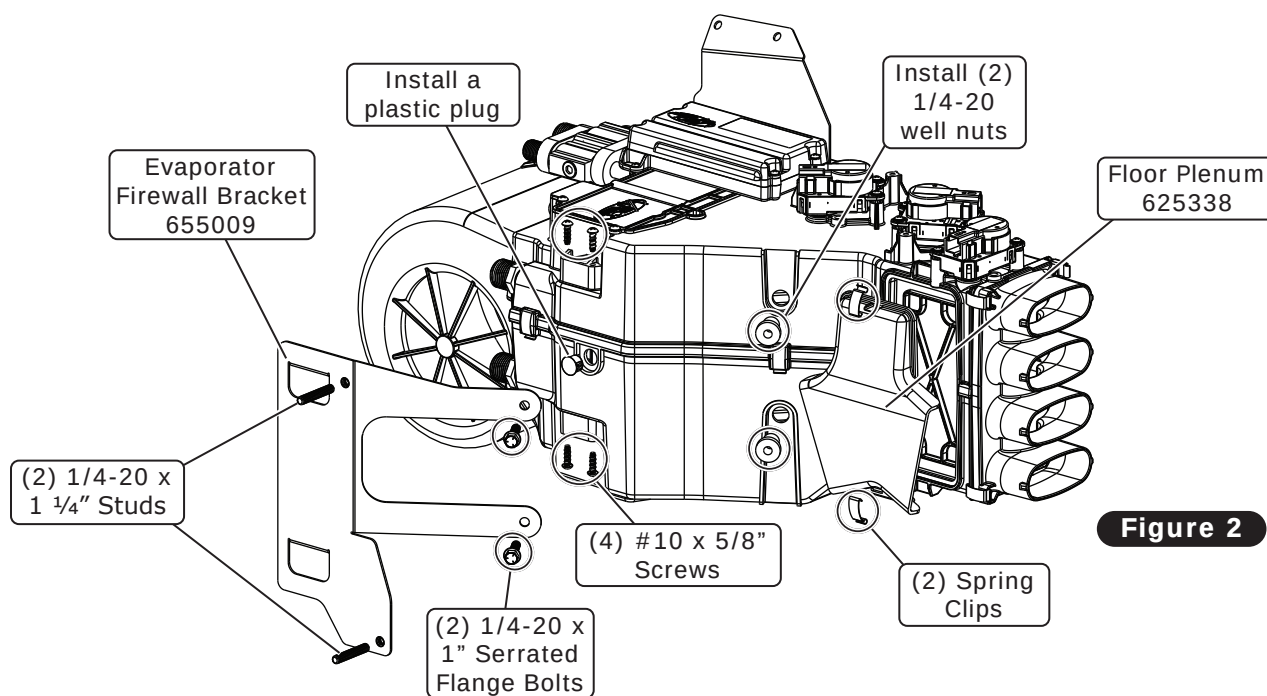

Figure 2
5. Install a plastic plug into the location shown in Figure 2, below.
6. Install (2) 1/4-20 well nuts as shown in Figure 2, below.
7. Install the floor plenum onto the evaporator module using (2) spring clips (See Figure 2, below).
8. Install the evaporator firewall bracket onto the evaporator module using (4) #10 x 5/8" screws and (2) 1/4-20 x 1" serrated flange bolts (See Figure 2, below).
9. Install (2) 1/4-20 x 1 1/4" studs onto the evaporator firewall bracket as shown in Figure 2, below.
4. Lift the evaporator module up under the dash. Align the studs with mounting provisions in the firewall cover. Temporarily secure it in place using (2) 1/4-20 nuts with star washers from the engine side of the firewall.
6. Place the front evaporator mounting bracket onto the cowl. Using the bracket as a template, drill (2) 3/16" holes in the cowl. Secure it using (2) #14 x 3/4" hex sheet metal screws (See Figure 2, below).
7. Replace the studs in the firewall with (2) 1/4-20 x 3/4" flange head bolts.